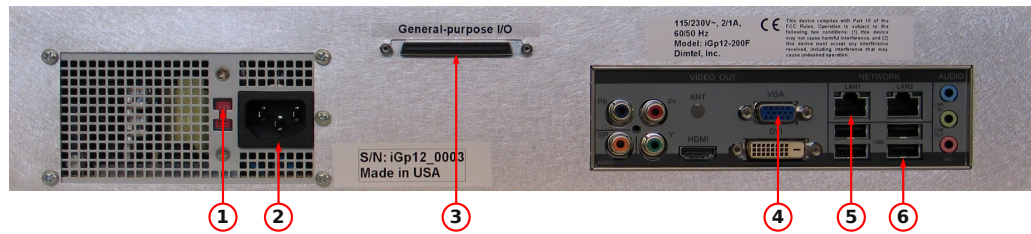

Figure 3: Rear panel features
**WARNING: Before connecting power to the unit make sure the voltage selection switch (Fig. 3, item 1) is in the correct position (115 or 230 V).**
1. Configure voltage selection switch (Fig. 3, item 1). Mains supply requirements for the iGp12-372F are listed in Table 10;
7. Connect a USB keyboard (Fig. 3, item 4);
8. Connect a video monitor (Fig. 3, item 5);
Setup program is included in the **IOC** for configuring the important features of the iGp12-372F. The program can be executed locally or remotely. For local execution one must first connect a keyboard (Fig. 3, item 4) and a video monitor (Fig. 3, item 5) to the system. For remote setup, use **ssh** after system bootup to establish connection. In both setup methods the user must login as **root** (initial password is supplied with the system). If the newly received iGp12-372F must be configured remotely (when, for example, a keyboard or a monitor is not available), such configuration can be performed using a dedicated network. Set up a network consisting of the iGp12-372F, a network hub or a switch, and a remote computer. The iGp12-372F is delivered with the following network configuration:
- Make sure no cable is connected to the general-purpose digital **I/O** port (Fig. 3, item 3);